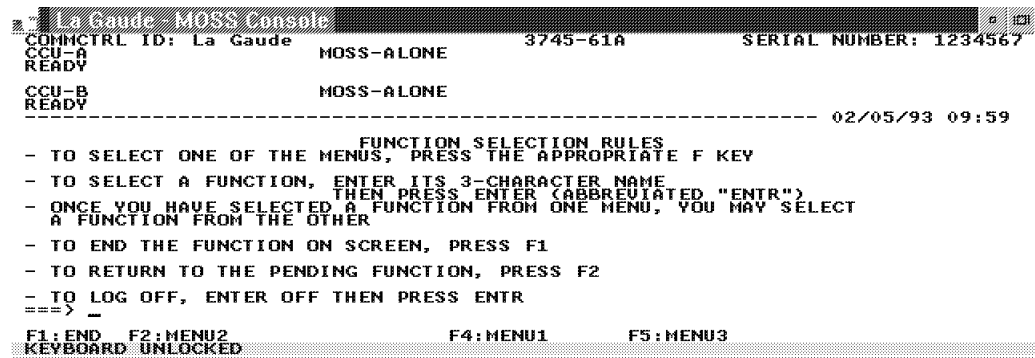

Figure 5-2. MOSS Primary Menu
- d. \_\_\_\_ From the MOSS primary menu (see Figure 5-2), **type CDF** and **press ENTER**.